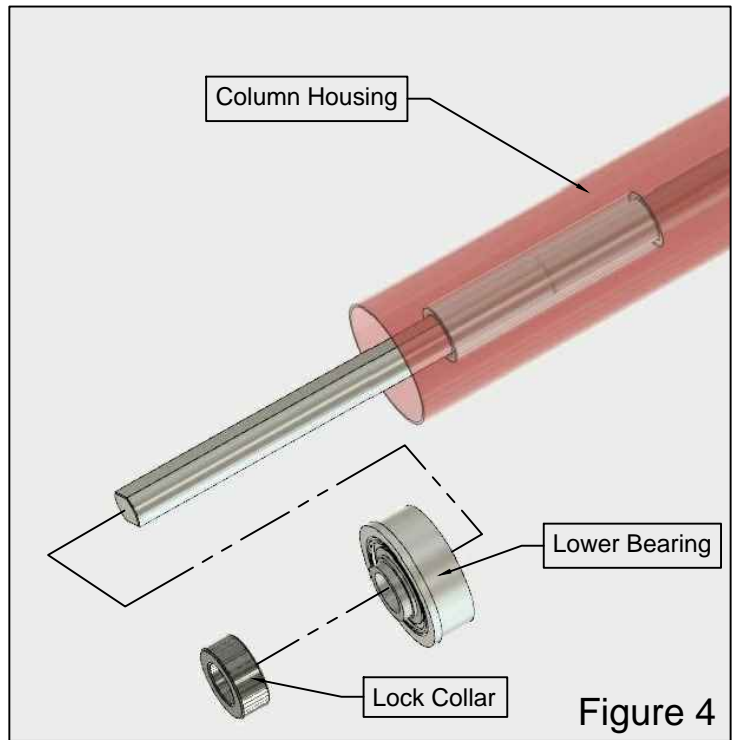

Figure 4
12. Slide the Lower Bearing onto the Center Shaft and up to the Column Housing. "Figure 4"